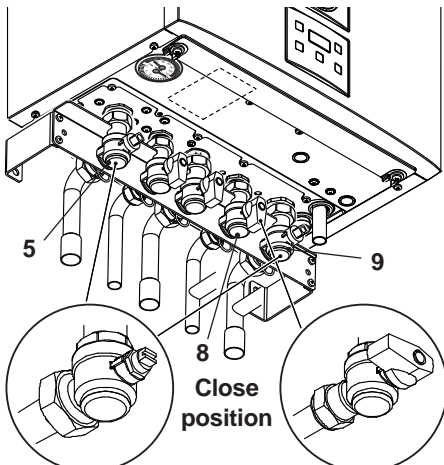

Fig. 9.4
- Turn off the d.c.w. inlet isolating valve 8 (Fig. 9.4).
- Close the c.h. isolating valves (5 and 9 in Fig. 9.4).